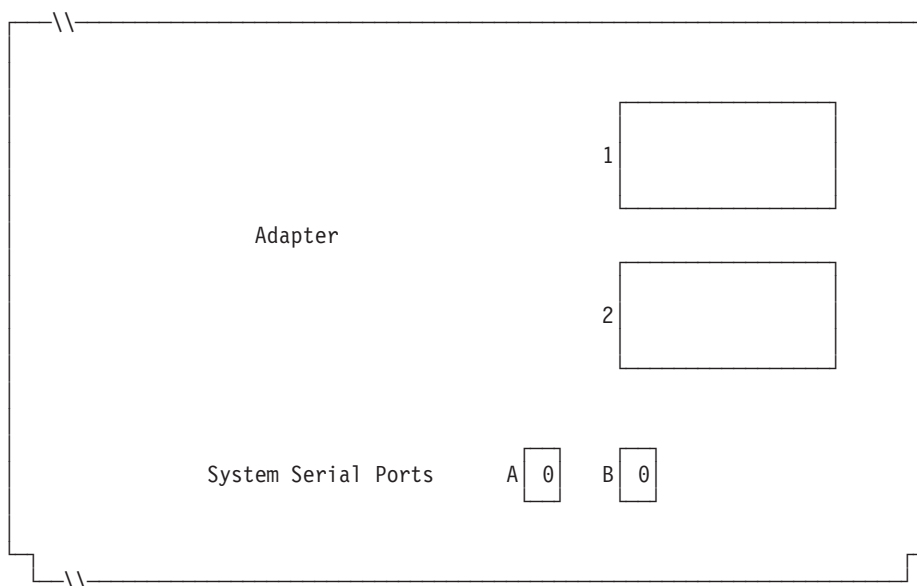

Figure 114. Right Side of Rear of 4694-2x6 Controller/Terminal
6. If terminal applications use the asynchronous port, write the port number on Figure 114. Use a 0 if the terminal does not use a port. Valid port numbers are 1, 2, 3, 4.